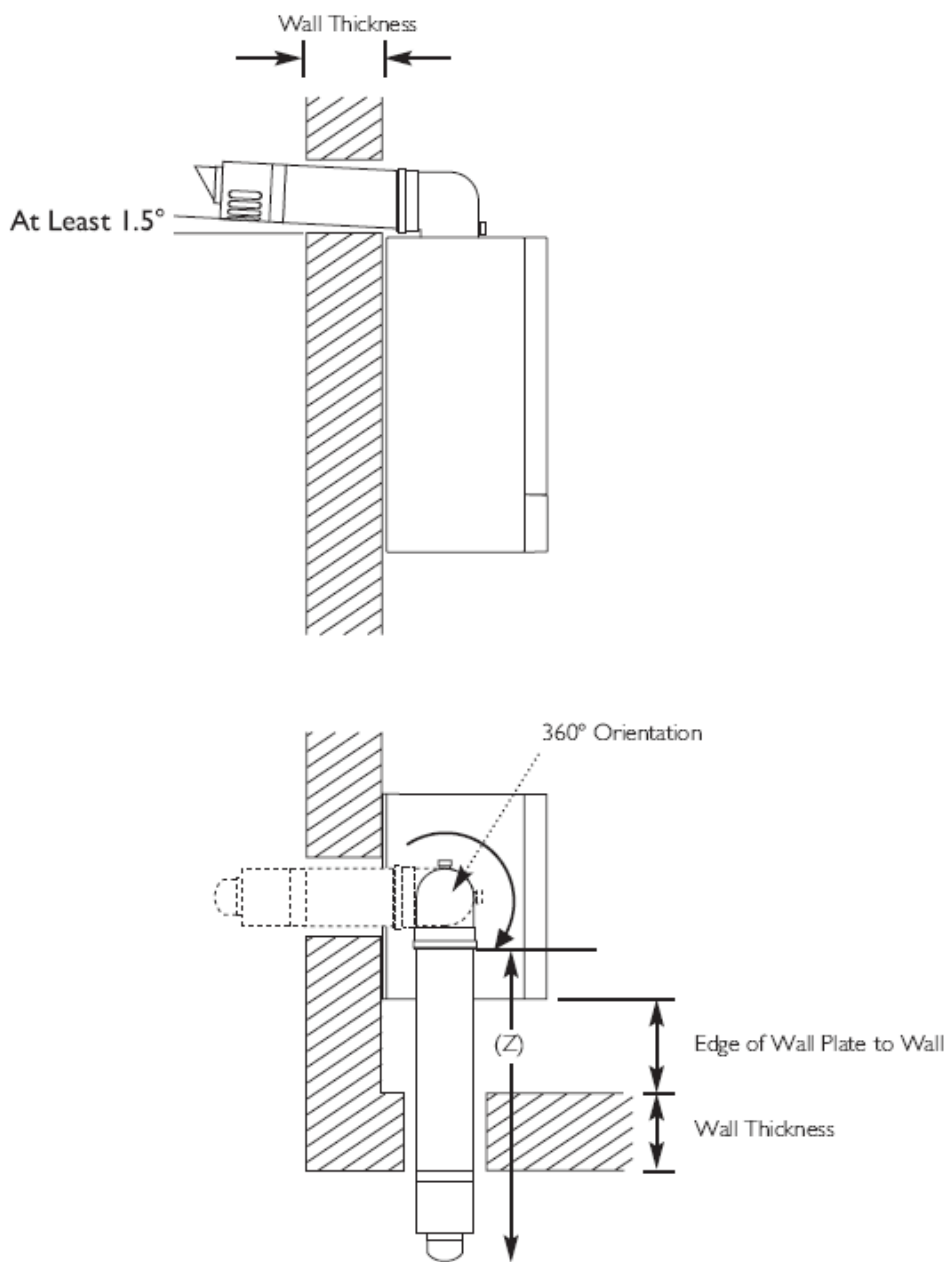
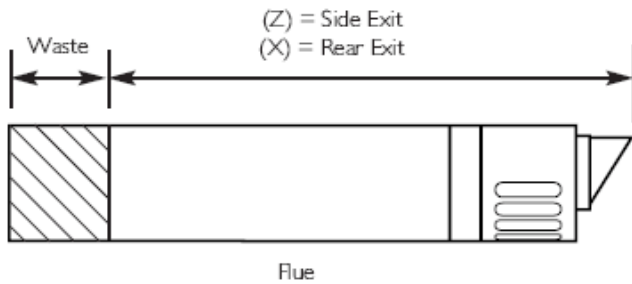

Fig. 26
Fig. 27
2. **For rear exit** - measure the wall thickness (Fig. 26) and to this dimension add 181mm. This dimension to be known as (X).
3. Take the flue and mark off (X) from the terminal end as indicated in the diagram (Fig. 27).
4. **For side exit** - measure the distance from the edge of the wall plate to the inner face of the wall (Fig. 26) and to this dimension add the wall thickness + 250mm. This dimension to be known as (Z).
i.e. (Z) = wall plate to wall + wall thickness + 250
5. Take the flue and mark off (Z) from the terminal end as indicated (Fig. 27).